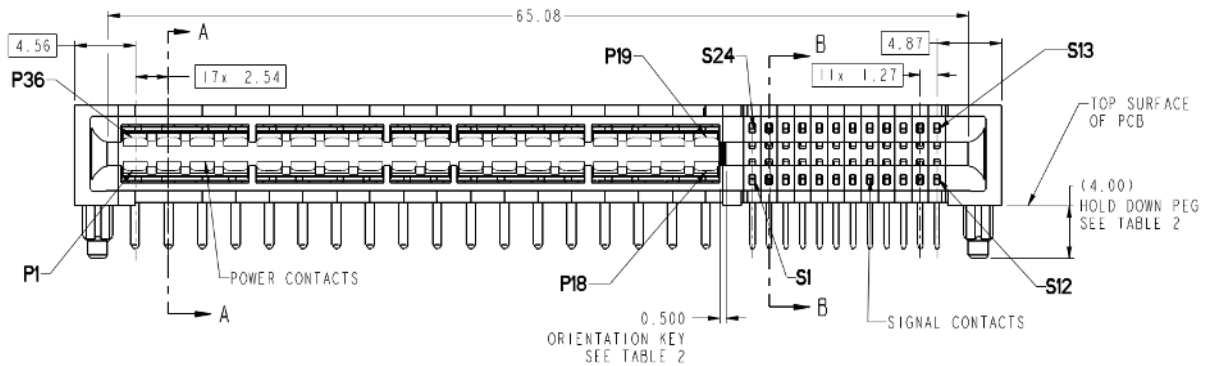

Figure 27. 10130248-005LF Rear view
*Pin definition for mating output connector 10130248-005LF (refer to Figure 27)*